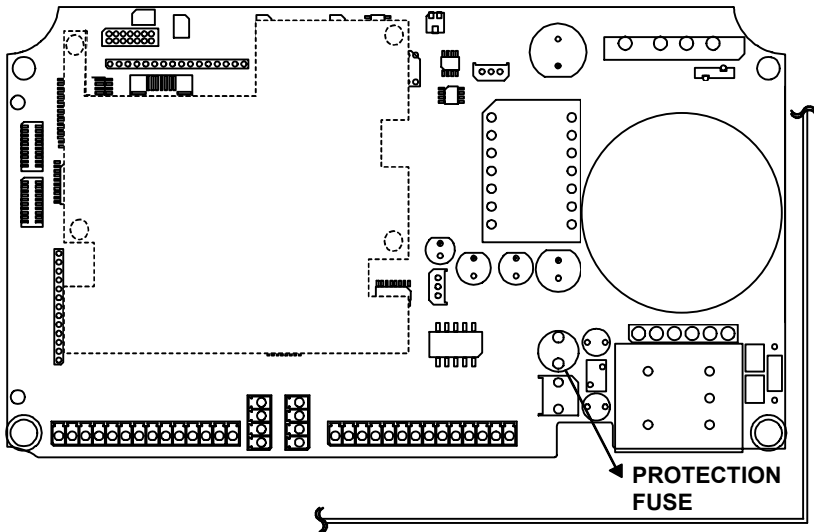

Figure 38 - Fuse position
- 3) Replace the fuse whose position is shown in Figure 38. Make sure to use the correct value as specified in the protection fuse table below.